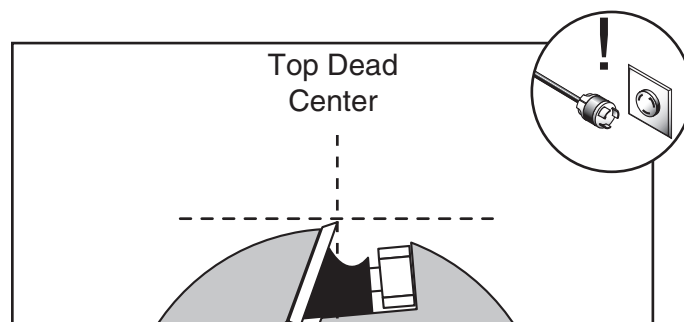

Figure 18. Cutterhead knife at top-dead-center.
3. Place a straightedge on the outfeed table so it extends over the cutterhead and rotate the cutterhead pulley until one of the knives is at top-dead-center (TDC), as illustrated in **Figure 18**.